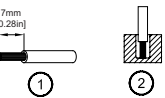

Figure 5
You can use flexible (stranded wire) or solid wire with cross section 0.52-3.3 mm2 (AWG 20-12) and torque of 0.46Nm (4.05lb in). To secure reliable and shock proof connections, the stripping length should be 7 mm [0.28 in] (see Fig. 5 (1)). Please ensure that the wires are fully inserted into the connecting terminals as shown in Fig. 5 (2).